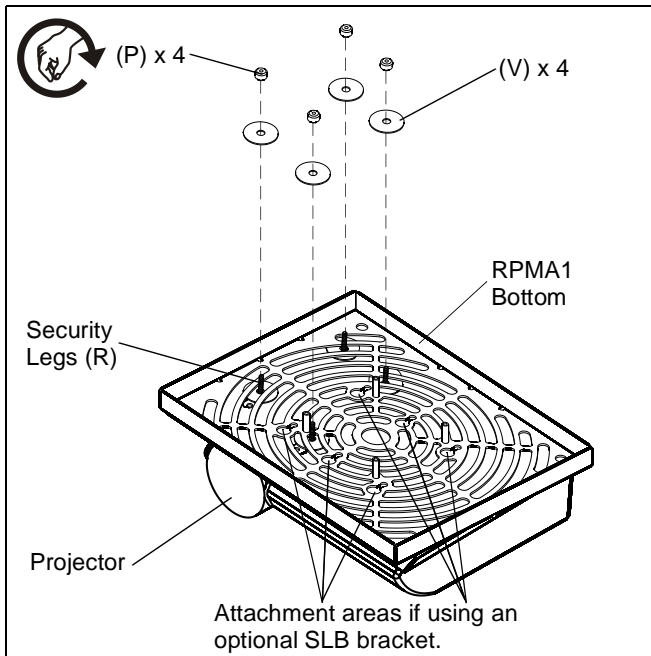

Figure 5
- Remove the paper backing from the adhesive washers (V) and attach projector to RPMA1 bottom using adhesive washers (V) and thumbnuts (P) over the security legs (R). (See Figure 5)
**NOTE:** An optional SLB bracket may be purchased and used to attach projector to RPMA1. (See Figure 5)